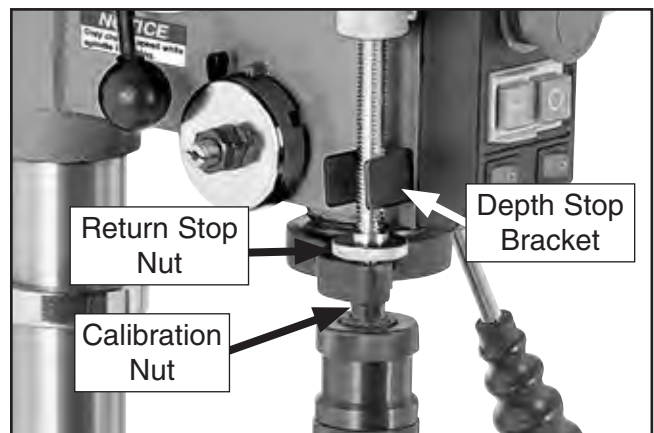

Figure 47. Calibration components.
1. Loosen return stop nut and calibration nut shown in **Figure 47**.